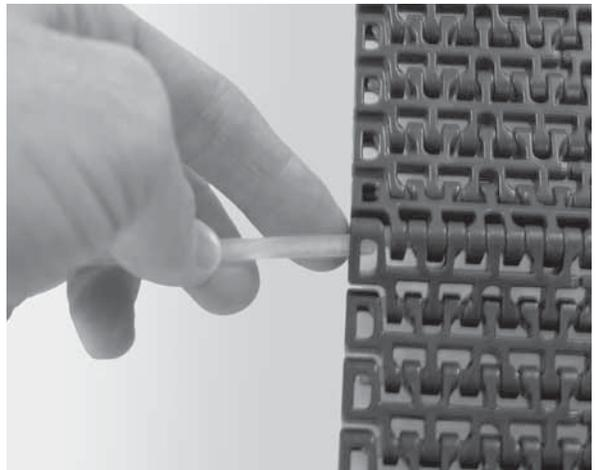

Figure 54
2. Use a second belt rod of the same size to push on the opposite end of the belt rod. (Figure 54).